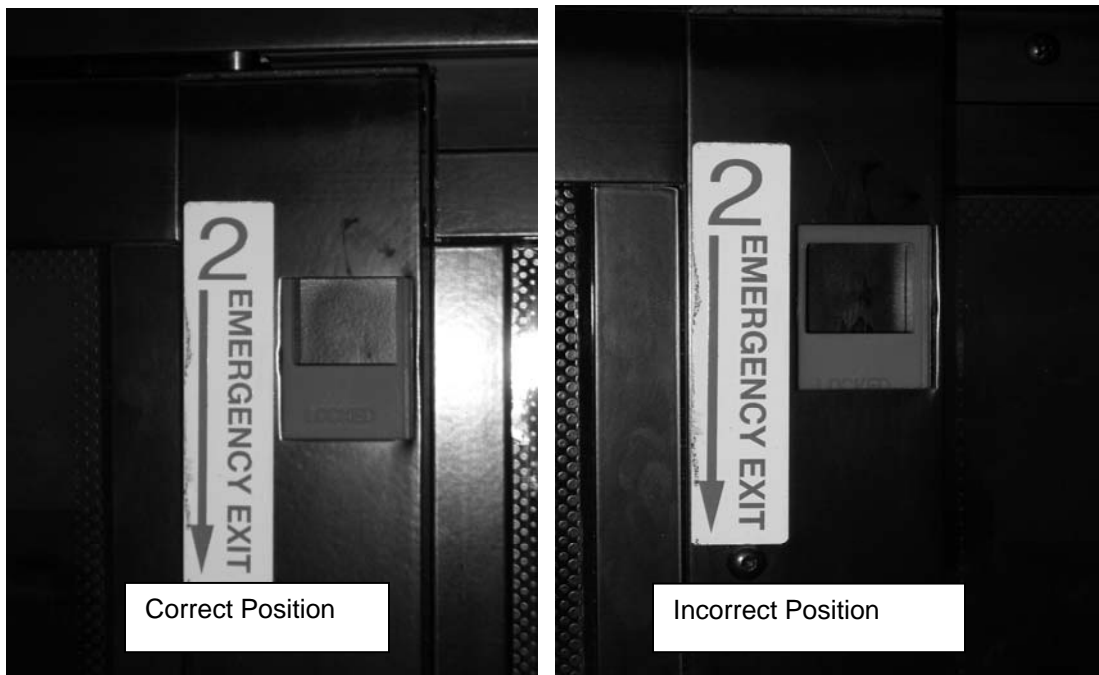

FIGURE 46: RELEASE LATCH PROPER POSITION
6. Confirm that both latches are in the closed (latched) position. The upper edge of the latch opening must be aligned with upper edge of the sash opening (Figure 46)
Unless otherwise noted, body panels and doors should be aligned and centered with surrounding panels. In general, a gap of  $\frac{1}{4}$  inch (6 mm) is desirable between panels. Refer to figure 46 for specified gaps.